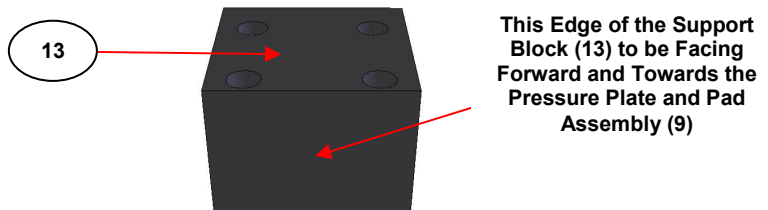

Fig 4. Orientation for Fitting of Support Block (13)
Note: *It is important that the clamp support block (13) is fitted the correct way around on the optical unit (2) for correct positioning of the clamp assembly (1) for its force application and clearance of any fitted trough (3) or flat (4) top plate assembly. (See Fig 4).*
Note: The support block (13) is orientated correctly as shown in Fig 3. when the two screw holes of the four that are closest to the edge of the support block (13) are facing towards the pressure plate and pad assembly (9) for fitting. (Also see Fig 4.)